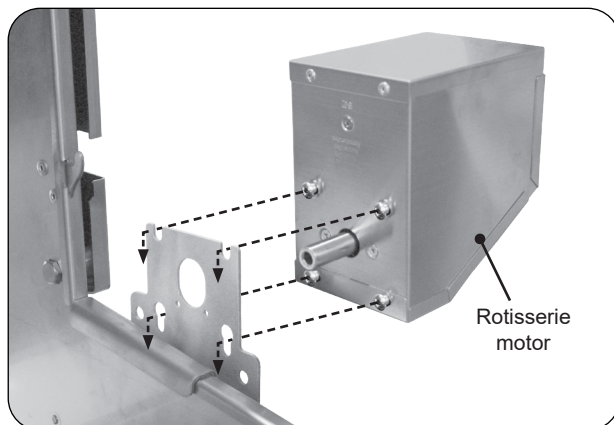

Fig. 42-2 Install rotisserie motor
2. Slide the rotisserie motor fully onto the motor bracket located on the right side of the grill (see Fig. 42-2) and connect it to a power source (do not turn on).